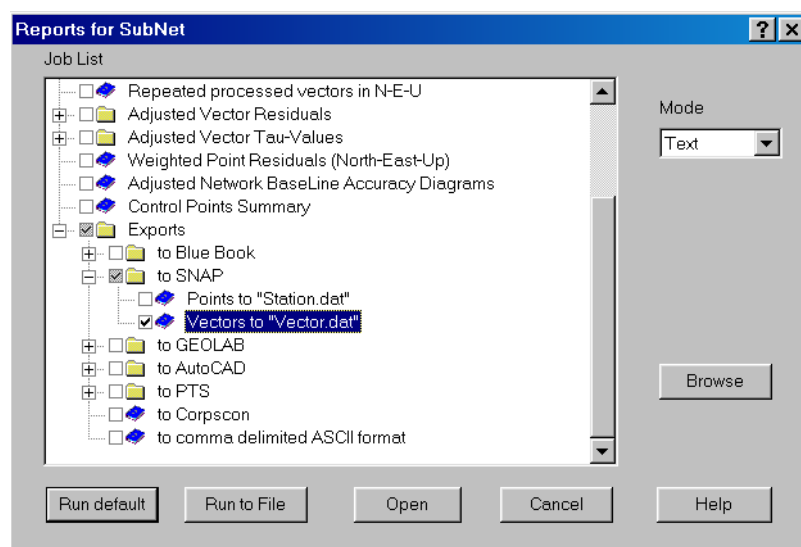

Figure 6-2
2. In case the subnets merged reside in *different networks* of a project or even belong to *different projects*, they can be combined only by using 'auxiliary' SNAP points and vectors files. The user will have to export data in one network into SNAP files and then import these files into another network. To export data, right-click on the subnet node, choose *Report...* from the pop-up menu and check *Exports to SNAP* in the *Reports for SubNet* list (see Figure 6-2).